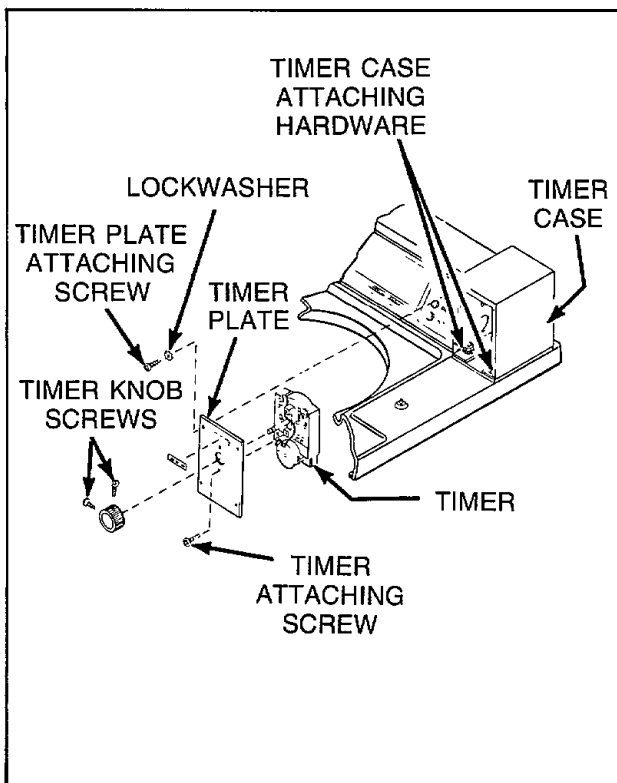

Figure 6
#### 5. TIMER ASSEMBLY - Non-Metered Models (Refer to *Figure 6*)
- Remove carriage bolt, washer, lockwashers, and nuts holding timer case to cabinet top, *Figure 6*.